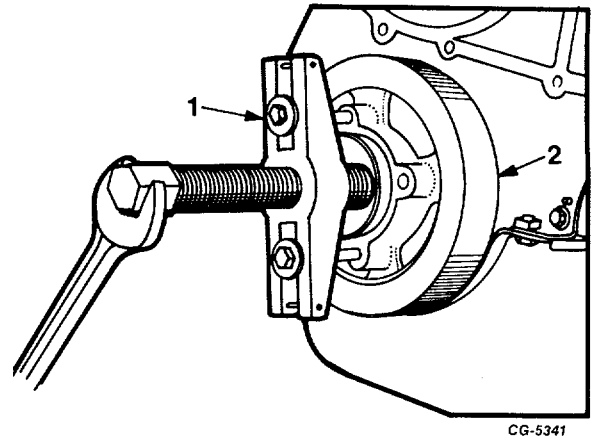

Fig. 48 Using SE-1368 Puller to Pull Crankshaft Damper
53. Remove crankshaft damper using SE1368 Puller, Figure 48.